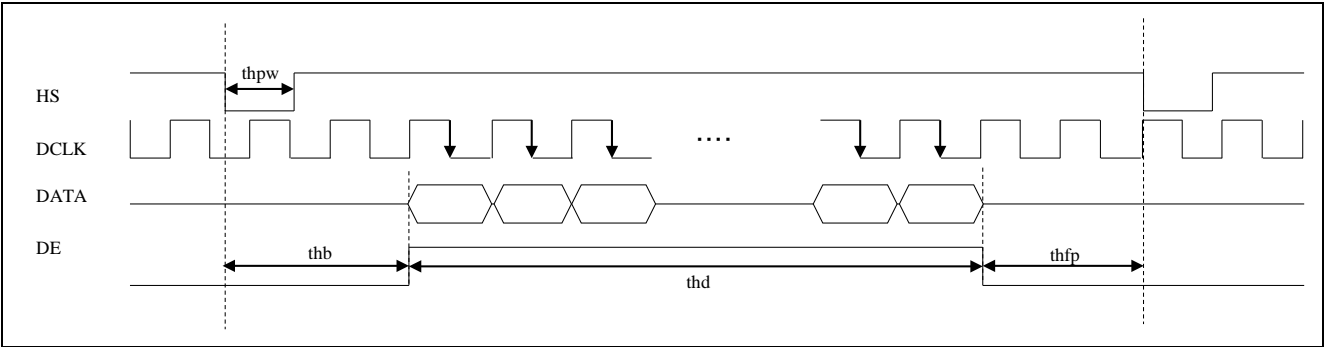
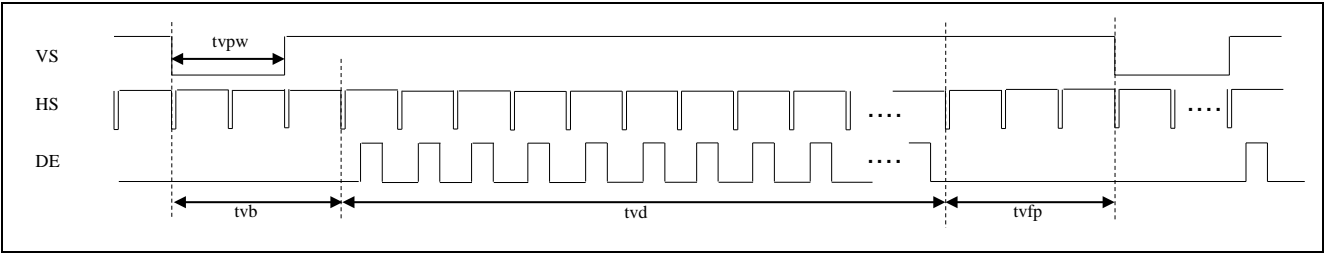

Figure 5-1 Horizontal input timing diagram
Figure 5-2 Vertical input timing diagram
RSK TFT APP Board(YR0K77210C000BE) Horizontal/Vertical input timing diagrams are shown as Figure 5-1 and Figure 5-2, and Horizontal/Vertical sync signal timing specifications are shown in
According to Figure 5-1 and Figure 5-2, RSK TFT APP Board(YROK77210C000BE) requires horizontal sync signal (Hsync), vertical sync signal (Vsync), and display enable signal (DE).
User needs to set that which control signals are output as TCON pin with used board specification document. Example of combinations of control signals and TCON pin are shown in Table 5-9. In addition, set polarity of control pins as well in comply with Figure 5-1 and Figure 5-2.
VDC output data timing is depending on the data latch timing on display device. If display device latch the data on fall-edge, VDC has to output data on rise-edge (must be opposite edge) timing. In this sample program, according to Figure 5-1, display device latch the data on fall-edge timing, so VDC edge timing is set as rise-edge (refer to Table 5-10).